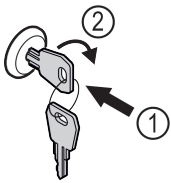

Fig. 152
- ▶ Insert the key. Fig. 152 (1)
- ▶ Turn the key clockwise by 90°. Fig. 152 (2)